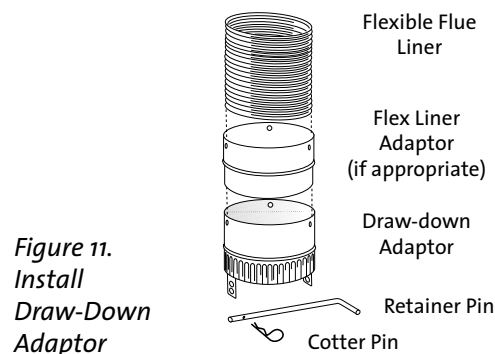

Figure 11.
1. Insert the end of the chimney flue flex pipe as far as it will go into the non-crimped end of the adaptor or, if appropriate, the adaptor that may be supplied by the flex liner manufacturer. Orient the draw-down adaptor so that the retainer pin will be parallel with the front of the fireplace. This will ease locating the cotter pin. Fig. 11.